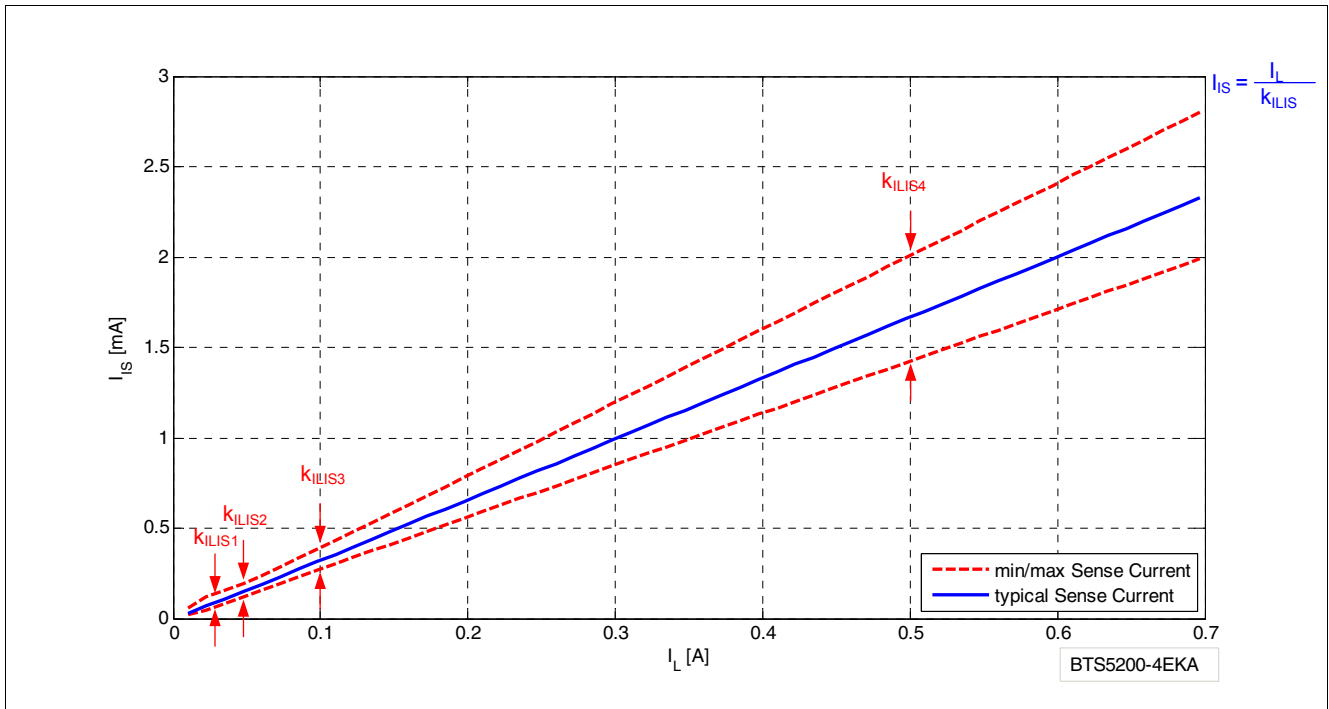
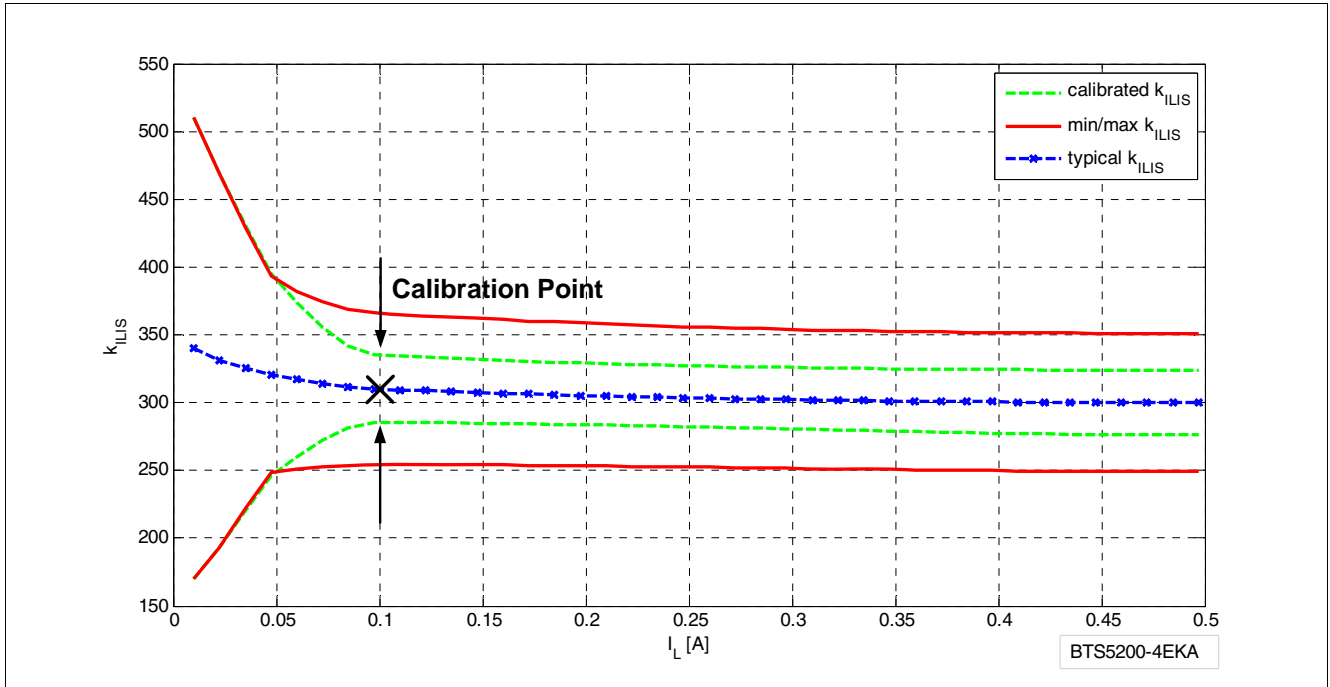

Figure 20 Current Sense for Nominal Load
Figure 21 Improved Current Sense Accuracy with One Calibration Point
**Figure 20** and **Figure 21** show the current sense as a function of the load current in the power DMOS. Usually, a pull-down resistor  $R_{IS}$  is connected to the current sense IS pin. This resistor has to be higher than 560  $\Omega$  to limit the power losses in the sense circuitry. A typical value is 1.2 k $\Omega$ . The blue curve represents the ideal sense current, assuming an ideal  $k_{ILIS}$  factor value. The red curves shows the accuracy the device provides across full temperature range at a defined current.
In some applications a better accuracy is required at smaller currents. To achieve this accuracy requirement, a calibration on the application is possible. To avoid multiple calibration points at different load and temperature conditions, the BTS5200-4EKA allows limited derating of the  $k_{ILIS}$  value, at a given point ( $I_{L3}$ ;  $T_J = +25\text{ }^\circ\text{C}$ ). This derating is described by the parameter  $\Delta k_{ILIS}$ . Figure 21 shows the behavior of the sense current, assuming one calibration point at nominal load at  $+25\text{ }^\circ\text{C}$ .